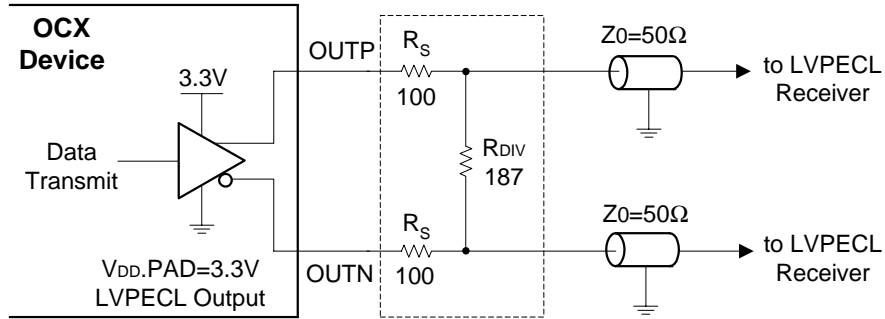

Figure 9 Transmitting LVPECL Signal Circuit
Transmitting and receiving circuits for LVPECL are shown in Figures 9 and 10.
4. Refer to Figures 9 and 10 for termination resistor.